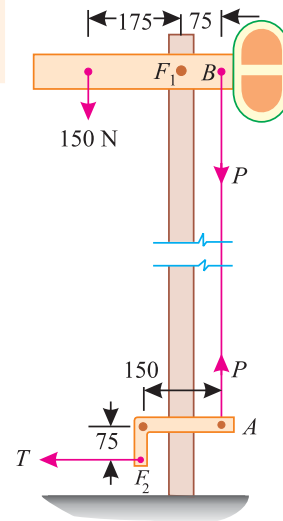

Fig. 3.17.
**Example 3.9.** Find the tension required in the operating wire to raise the signal through the system of levers as shown in Fig. 3.17. All dimensions are in mm.